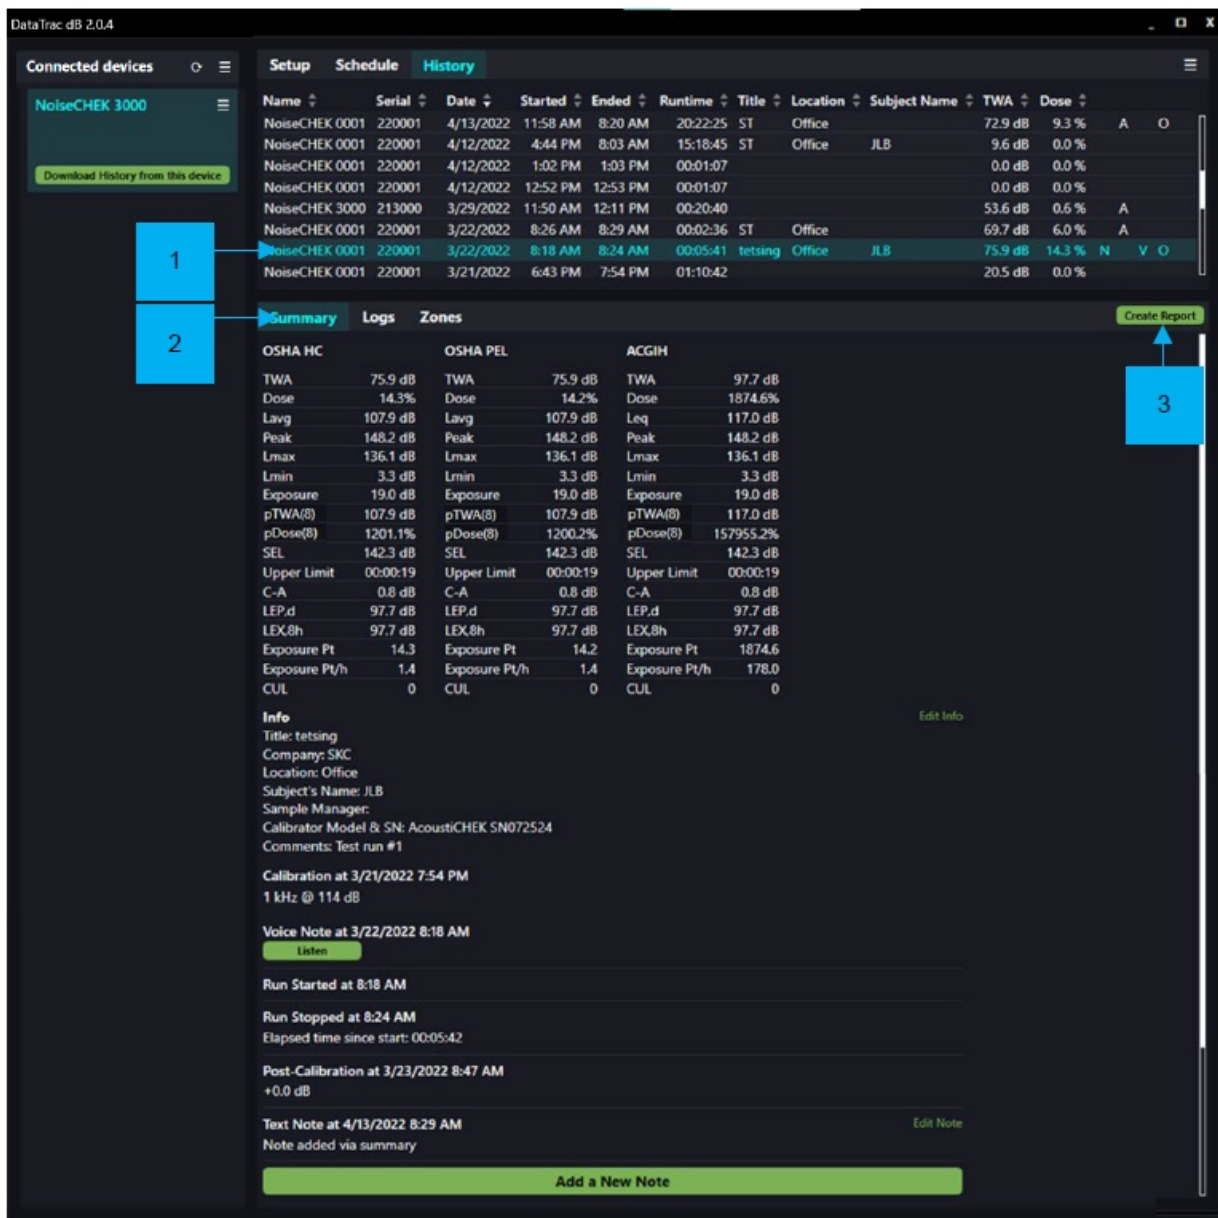

Figure 10. Summary
### **Summary – Viewing, Editing, and Reporting Data (Figure 10)**
1. In Summary: Click Add a New Note (see Figure 10).